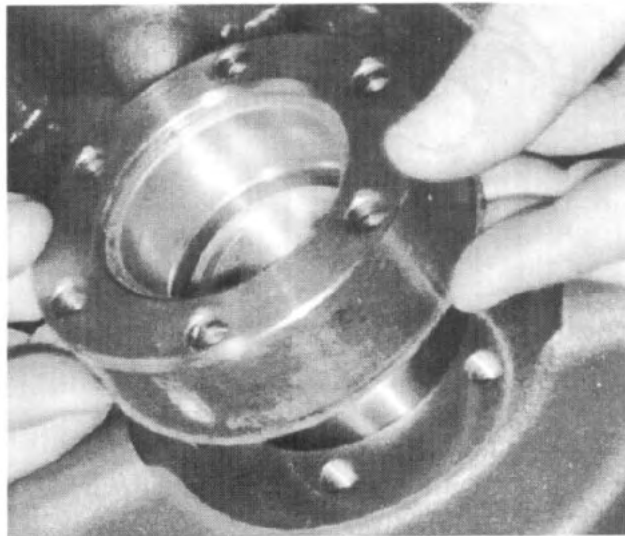

Fig. 110
2. Place the spacer ring assembly, with bushing and gasket, around the pump cartridge and against the sealing face of the rear carrier. Using two (2) 5/16-18 x 1 1/2" long bolts, secure the spacer ring assembly to the rear carrier. See Fig. 110.